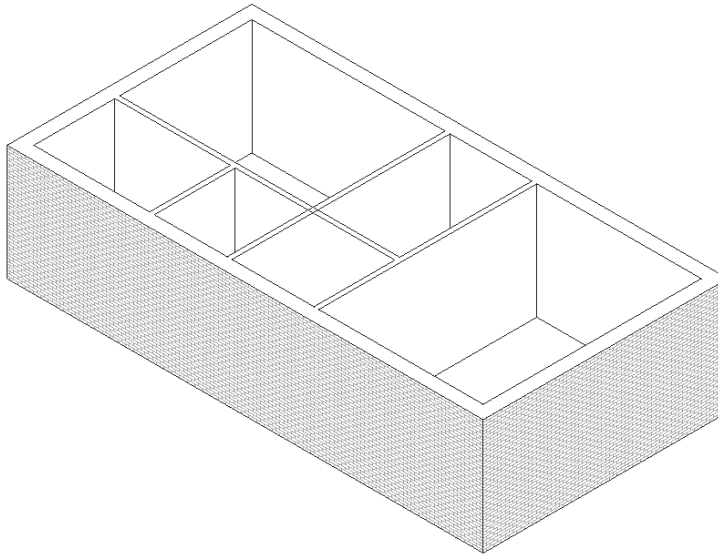

Figure 3-62 3D view of the Apartment 1 building model
8. To view the building model in 3D, choose the **3D** button in the **View** toolbar. Choose **View > Hidden Lines** from the menu bar. The view is similar to the one shown in Figure 3-62.